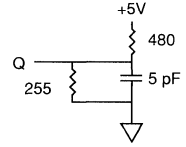

Fig. 2 OUTPUT LOAD EQUIVALENT
6. ^tHZCE, ^tHZOE and ^tHZWE are specified with C_L = 5pF as in Fig. 2. Transition is measured ± 500mV from steady state voltage.